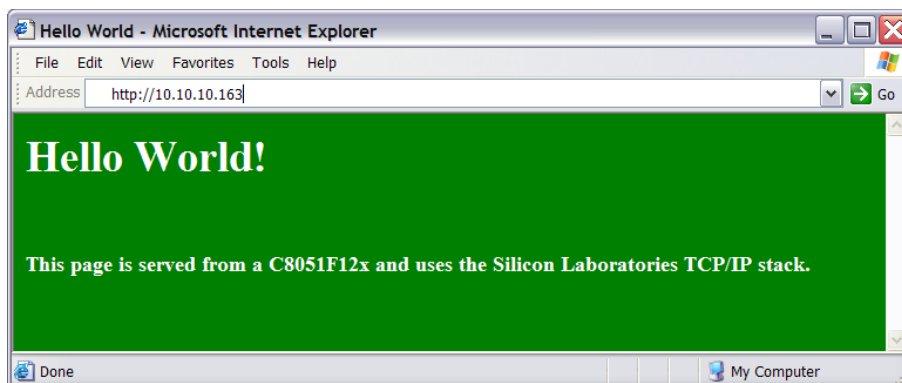

Figure 24. Hello World Web Page
9. The default web browser should launch and display the home page served by the embedded web server. The same result can be achieved by typing the IP address of the embedded web server into the address bar of a web browser. Figure 24 shows a screenshot of the uWeb-v2.0 home page.